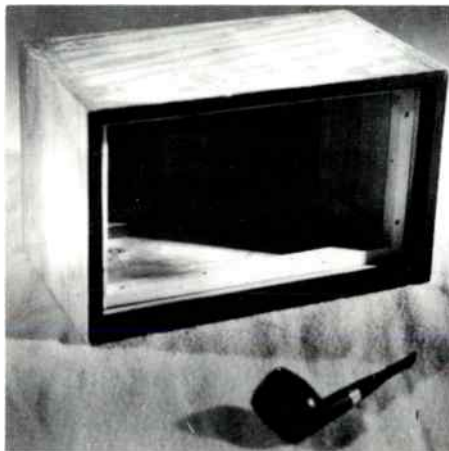

Fig. 4. Enclosure ready for venterring.
10. Trim the edges flush with the panels with a plane or rasp and sandpaper. Fill any large gaps that might cause an air leak with wood fillers. If you plan to veneer the enclosure, it is not really necessary to fill the screw holes and small gaps along the edges as shown in Fig. 4; however, sand the enclosures to remove any burrs and provide a smooth surface for the veneer.